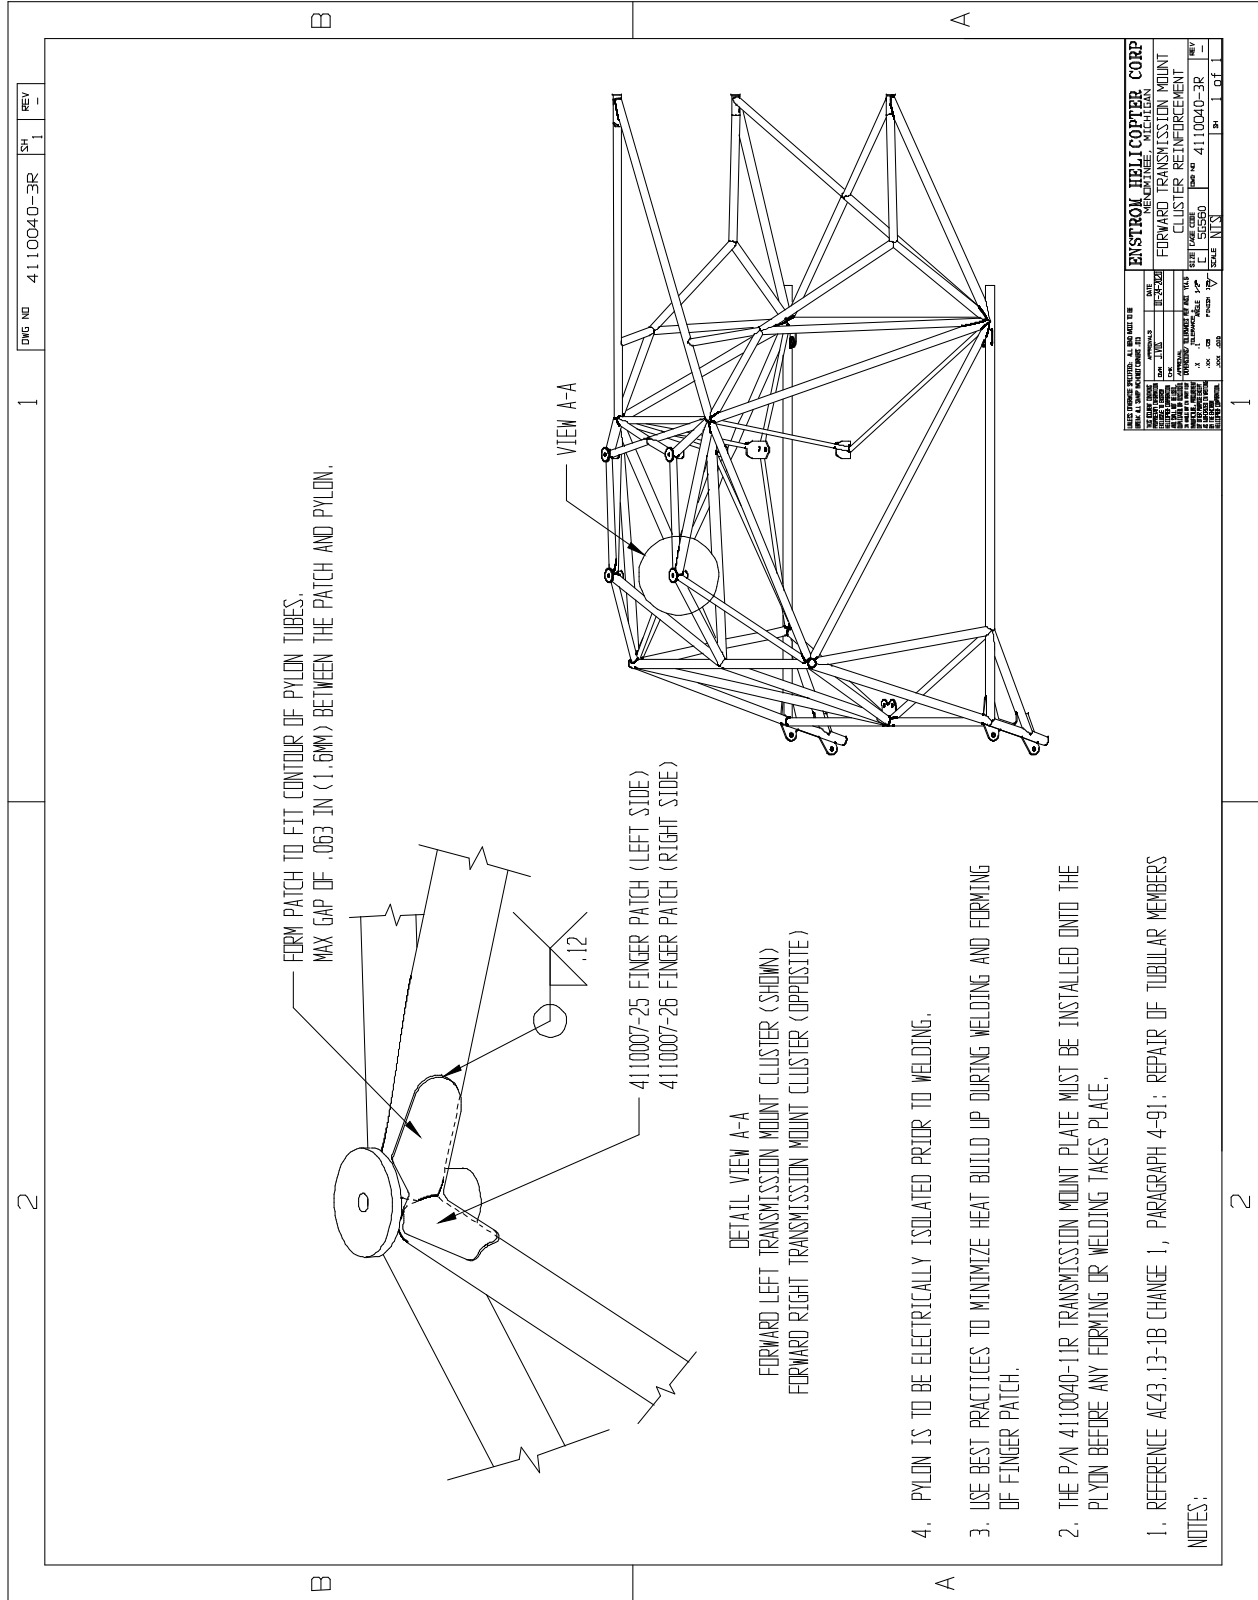

Figure 1. Drawing 4110040-3R – Forward Transmission Mount Cluster Reinforcement
- 6.6 Using chemical paint remover, remove epoxy primer from the finger patch area (reference Figure 1 and paragraph 7.2).
- 6.8 Weld P/N 4110007-25 and P/N 4110007-26 finger patches to the pylon joints (reference Figure 1).